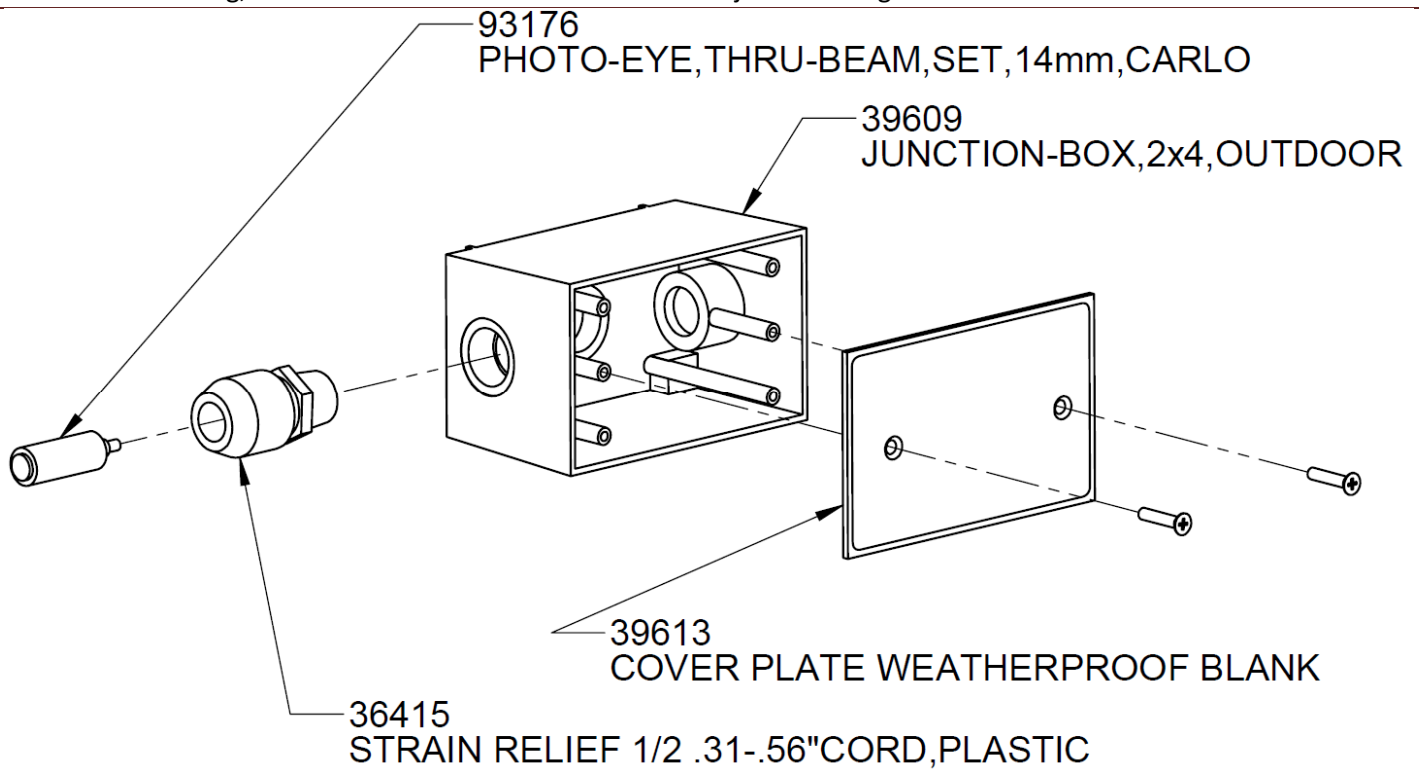

Figure 149 - Door Control Photo-eye Assembly
- Assemble the Photo-eyes and the enclosures as shown in Figure 149. Note which eye is the receiving Photo-eye (black cable) and transmitting Photo-eye (gray cable). Make sure the Photo-eyes point directly at each other.